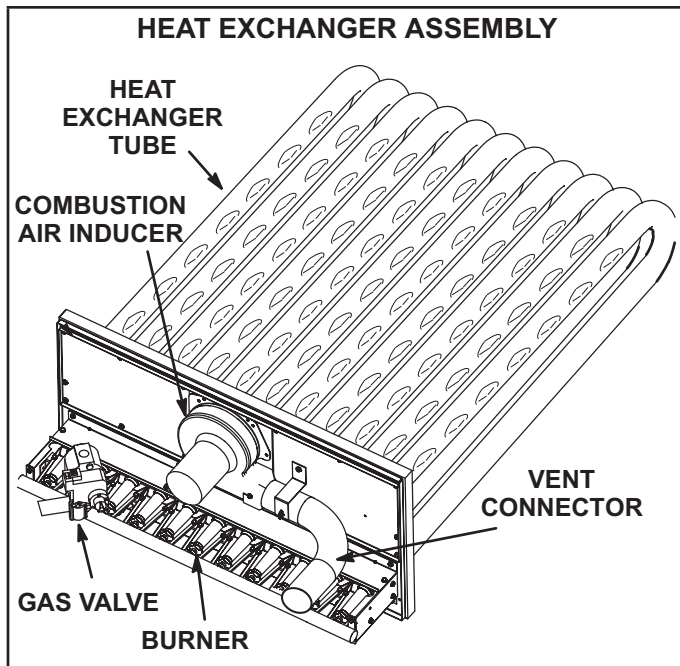

FIGURE 38
- 3 - Remove and retain screws securing combustion air inducer to flue box. Remove and retain two screws from bracket supporting vent connector. See FIGURE 38.